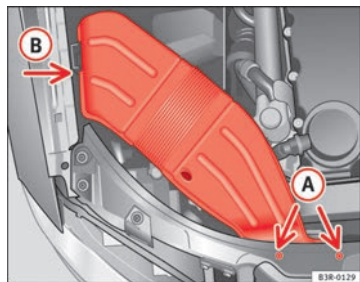

Fig. 187 Air duct on right side of vehicle
- Unscrew bolts **A** ⇒ fig. 187.